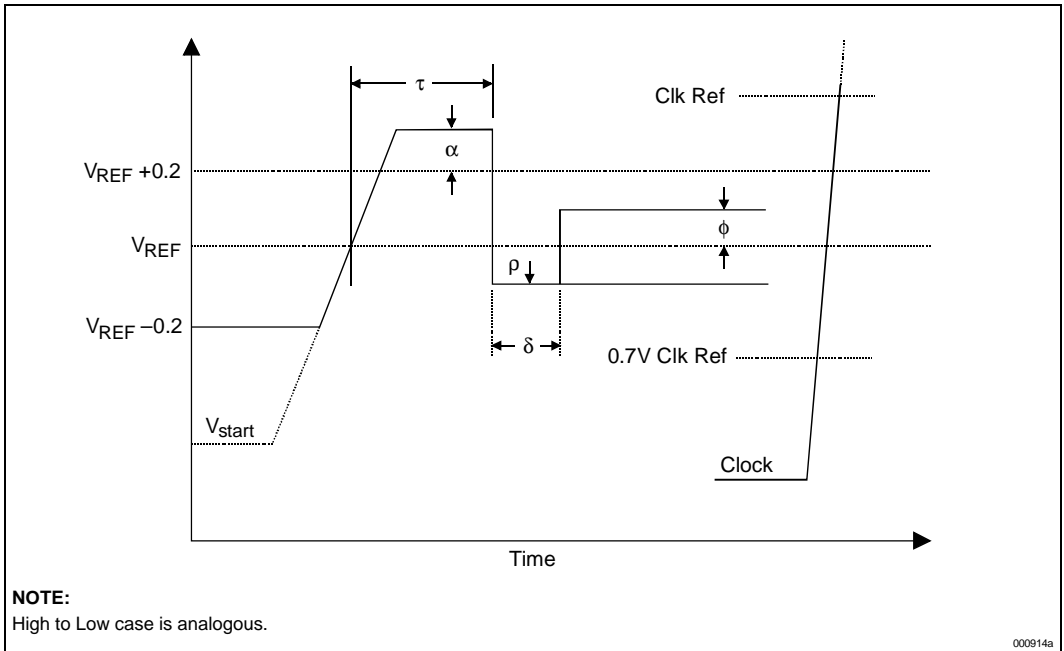

Figure 16. Low to High GTL+ Receiver Ringback Tolerance
1. Specified for the edge rate of 0.3 – 0.8 V/ns. See Figure 16 for the generic wave form.
Table 18 and Figure 16 describe the GTL+ signal quality specifications for the Pentium II processor. For more information on the GTL+ interface, see the *Pentium® II Processor Developer's Manual* (Order Number 243341).